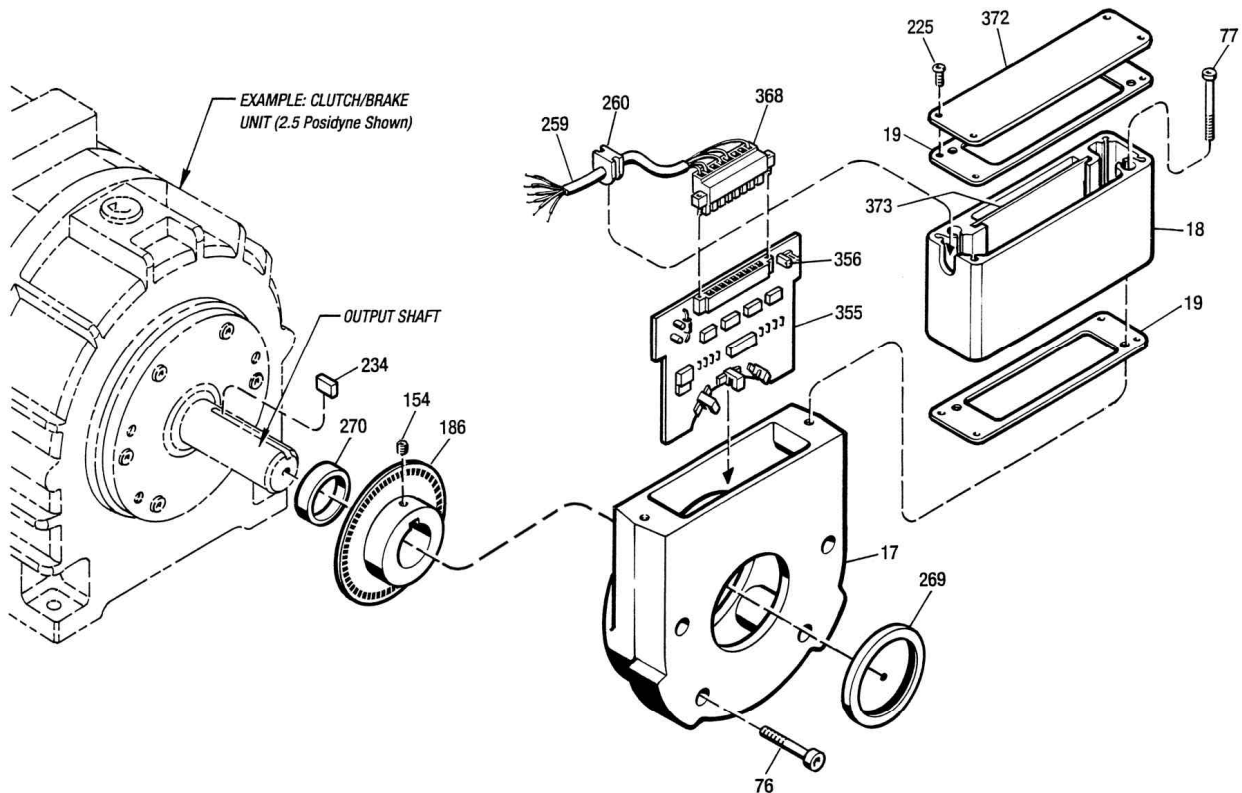

Figure 10.4 - Encoders
*(Repair Parts List for Figure 10.4)*